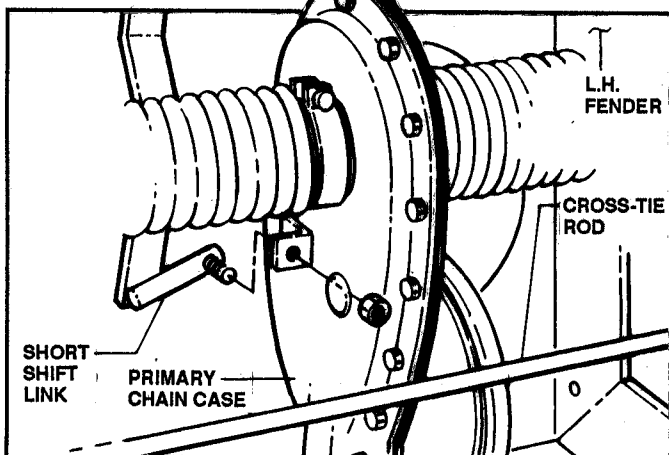

FIGURE 4.35
8. Disconnect the short shift link from the Primary Chain Case. See Figure 4.35.